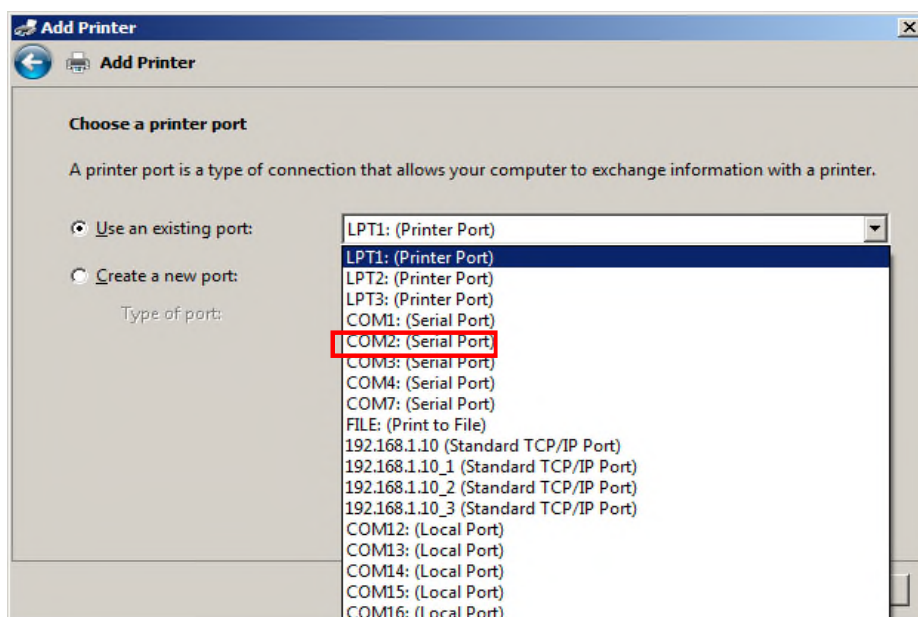

Figure 10.20 – Add a serial printer – COM Port Selection
- 6) Click **Next** and select the port the printer is attached to on the back of the AlcoTest™. For the serial port on the back of the AlcoTest™ select **COM2** for an older serial printer. (figure 10.20) NOTE: This does not apply to local USB connected printers.
- 9) Navigate to the USB storage device or network location where the drivers for the printer to be installed are located as shown in Figure 10.20.